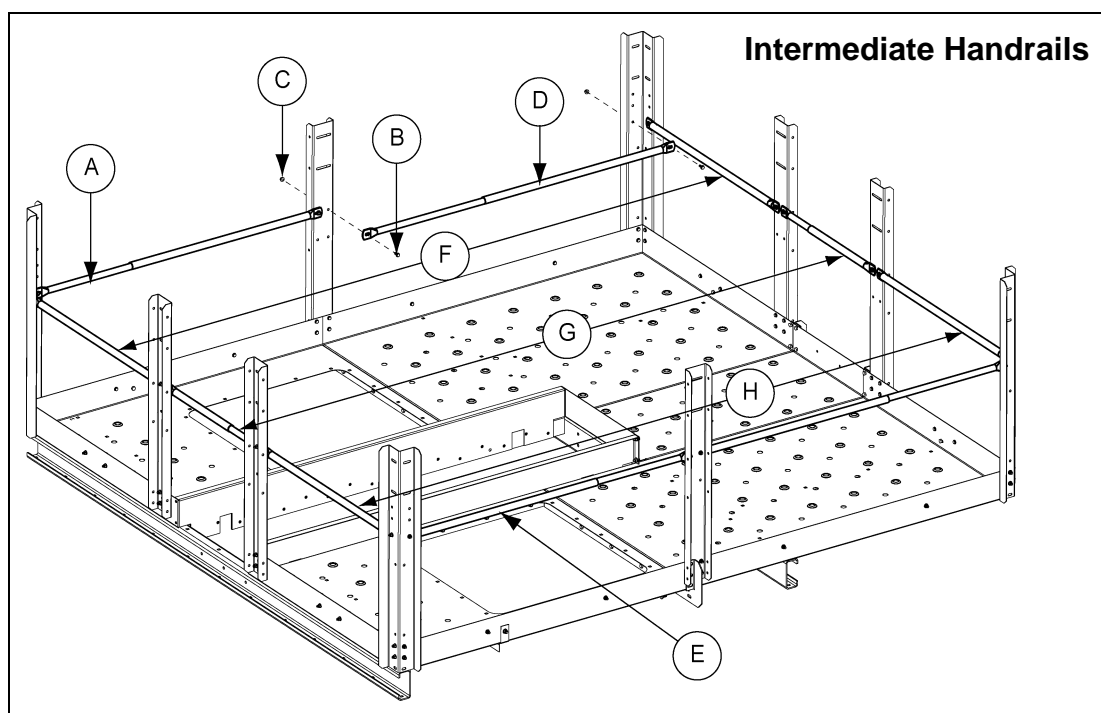

Figure 8R Intermediate Handrails
**NOTE:** The small intermediate handrail (LDR-4088) fits inside of the large intermediate handrail. It is critical that large and small rails be properly identified in advance. Rails are cut to size and cutting the wrong rail or to the wrong length will prevent proper installation. (See Figure 8R.)
- b. Insert one small rail inside of one large rail and telescope the joined rails from the "W" corner post to the platform post as shown in *Figure 8R on Page 67*.
- b. Insert one small rail inside of one large rail telescope the joined rails from the "W" corner posts to platform posts as shown in *Figure 8R on Page 67*.